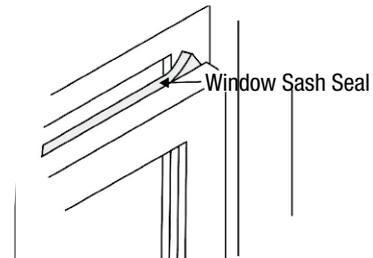

FIG. 19A
- Trim sash seal to fit window width. Insert into space between upper and lower sashes. (Fig 19A)